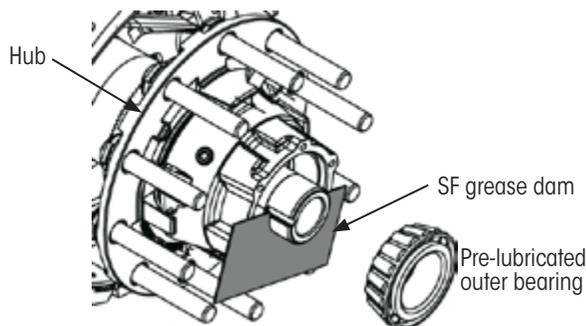

Figure 14: SF grease dam application
3. With the hub supported in position as shown in Figure 14, **place and hold** the SF grease dam so it covers the lower half the hub opening.
6. **Place** grease coated outer bearing over the spindle and against the SF grease dam (Figure 14).